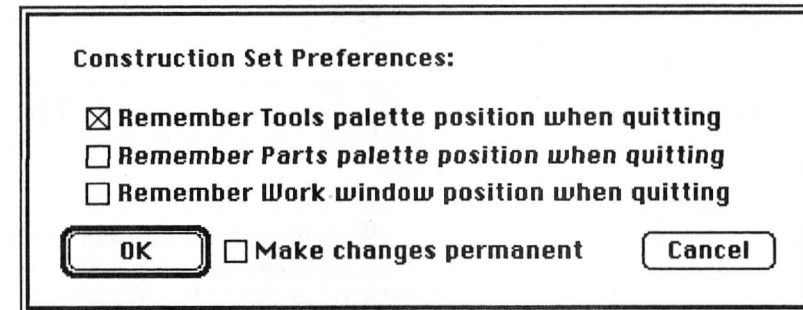

Figure 4-35 The Window Preferences dialog box
- ❖ **Window Preferences...** will display the dialog box shown in Figure 4-35.